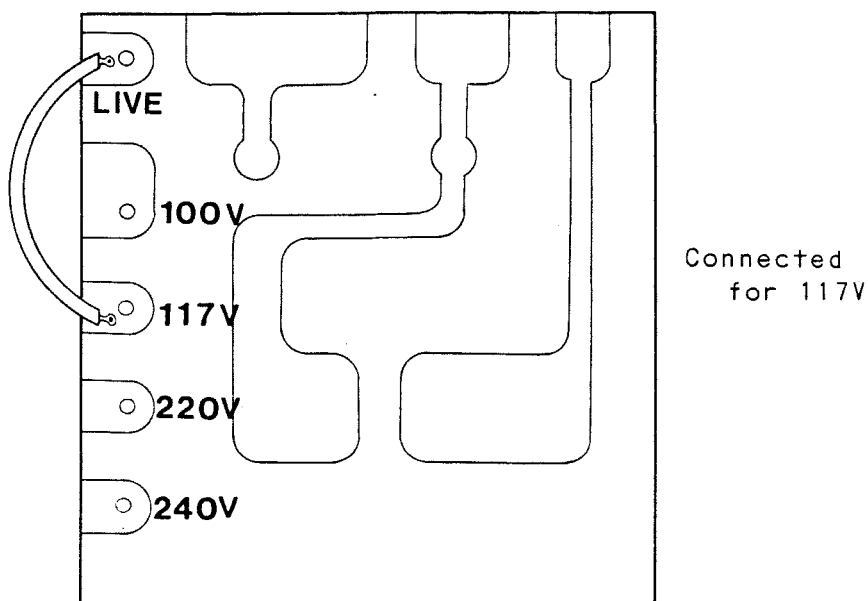

Figure 5-4 Voltage Selection Terminal
- (2) Resolder the lead wire of the voltage selection terminal located on the supply reel Ass'y to the desired voltage terminal marked as shown in Figure 5-4.